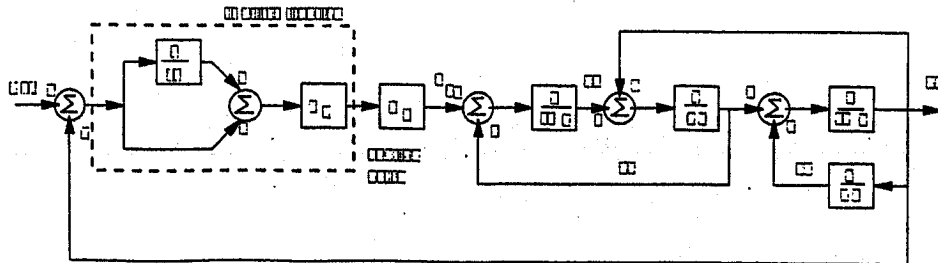

Figure 2 Block diagram for two tank system
- (iii) The block diagram in Figure 2 describes the above system when a PI (Proportional + Integral or two term) controller is used. Using the IMC or Ziegler-Nichols rules, determine controller settings. Show, also, how your state space representation would be modified to include the PI controller.